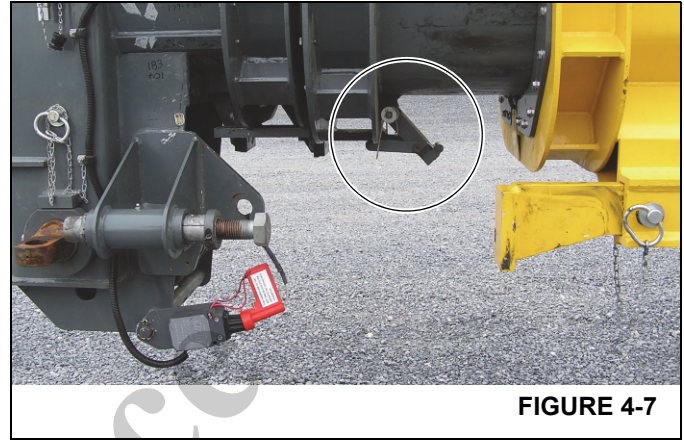

FIGURE 4-7
5. Extend the boom enough to disengage the spring loaded boom stop block (Figure 4-7).